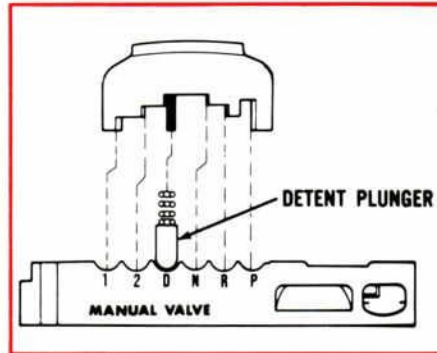

Figure 23—A Schematic Drawing Showing the Relationship of the Shift Gate Pawl to the Manual Valve in the Transmission Valve Body When Correctly Set.
- The manual valve located in the valve body must now be positioned exactly in the Drive detent, as shown in Figure 23.